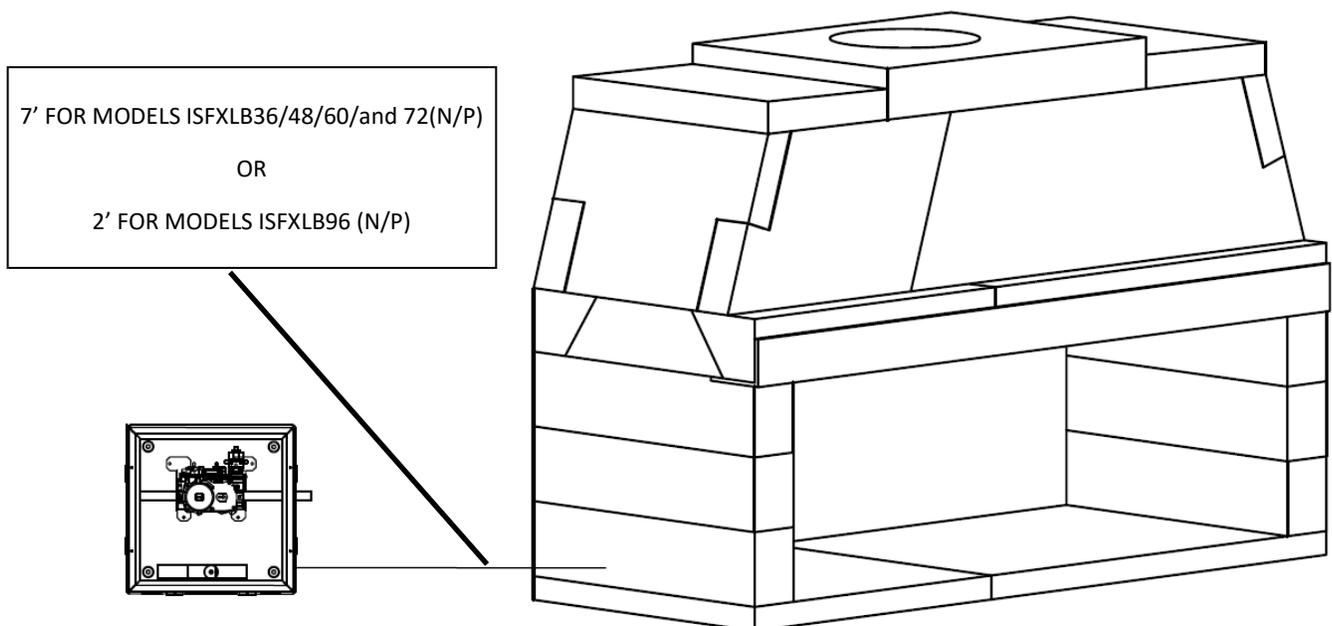

FIGURE 43
- 1) The valve control box comes with an 110" pilot assembly lead; therefore, the box must be mounted within 7' of the fireplace for models ISFXLB36/48/60/72 and within 2' for model ISFXLB96. **(Figure 43)**. This location should be within 4' (48") of the Meridian Control Panel.